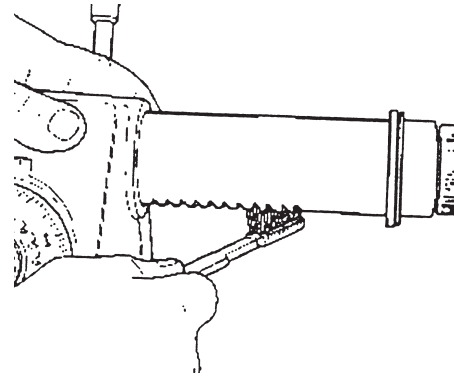

Figure 116
- b. Quill - Extend the Quill as far as it will go, lock it in place, then wax. After waxing, brush the Rack with a stiff brush to remove all the residue between the teeth, as shown in Figure 116.